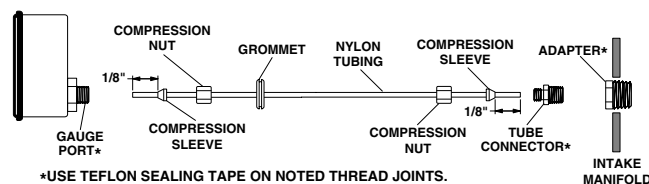

Figure 4. Boost/Vacuum Gauge - Intake Manifold Connection
1. Connect nylon pressure tubing to gauge using compression sleeve and compression nut provided. Tighten compression nut until tubing is secure. See Figures 4 and 5.
- Some vehicles are factory equipped with a tapped hole on the intake manifold that is suitable for the Boost/Vacuum gauge nylon tubing connection. If your vehicle is equipped with a suitable tap on the intake manifold follow the directions for "Option One - Intake Manifold Connection" (Figure 4).
See Figure 4 and follow the instructions below: